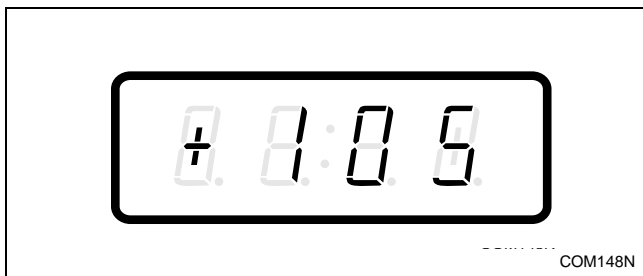

Figure 181
3. Press the DELICATES (+) or the COLD (-) keypad to scroll through the programmable options until “+105” appears in the VFD. Refer to *Figure 181*.